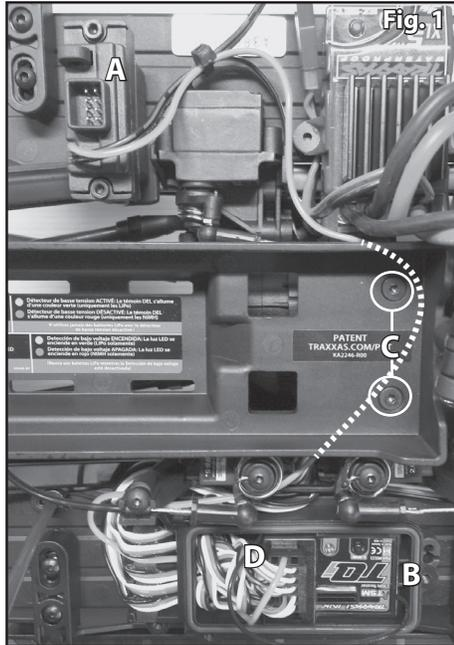

Fig. 2
1. Install the included templates on the body. Align the arrows with the body lines on the front grill and the tailgate as shown in Fig. 2 and 3.